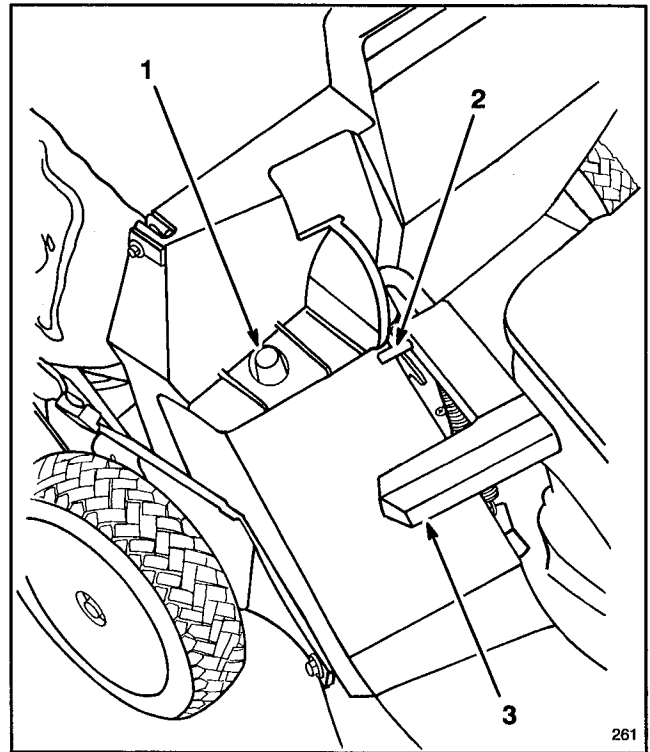

Figure 14
2. Ensure discharge door handle is fully forward and pin is engaged in catch (Fig. 14).
3. **INSTALLING BAG**—Slide hole in bag frame onto retaining post on discharge tunnel (Fig. 14). Set rear of bag frame onto support rod.
5. **EMPTYING BAG**—Stop engine and wait for all moving parts to stop. Raise discharge door handle and move it forward to engage the locking pin with catch (Fig. 14). Grasp handles at front and rear of bag and lift bag off mower. Gradually tip bag forward to empty clippings.